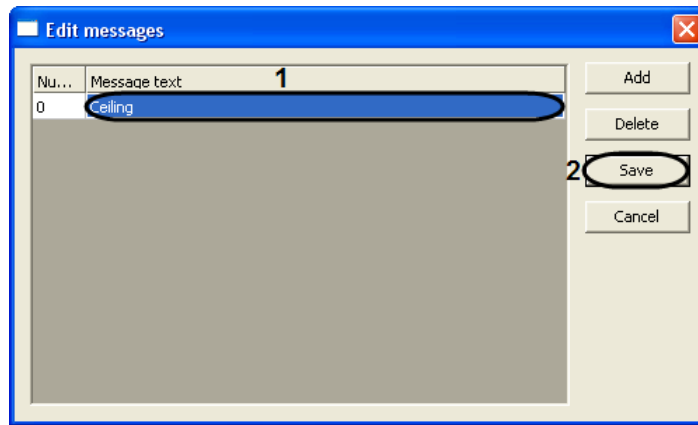

Fig. 3.6—6 How to add a message
6. Enter the new message into “Message text” column (see Fig. 3.6—6, 1).